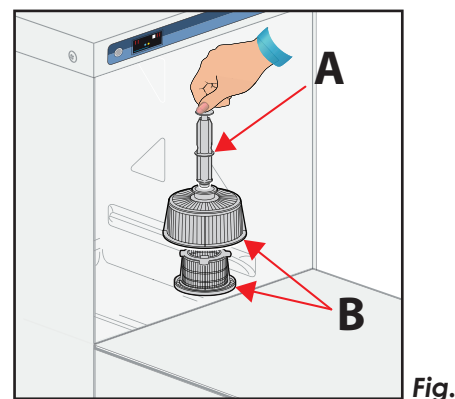

Fig.1
2. Leave the machine switched on. Open the door and remove the OVERFLOW PIPE (A). Fig. 1
DO NOT REMOVE THE GREY PLASTIC FILTERS (B) FIG. 1. THESE PREVENT SCRAPS OF FOOD GOING DOWN INTO THE DRAIN PUMP.
3. Press and hold the DRAIN PUMP button (3) for 1 second.
5. Remove grey plastic PUMP FILTER (B) Fig. 1 and wash under running water and refit the filter and OVERFLOW PIPE (A).